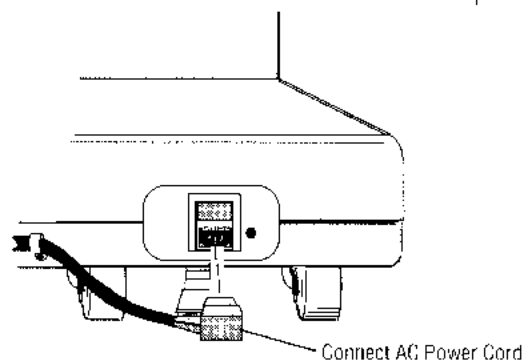

Figure 6-3. Charge Batteries
1. Connect AC power cord to table base and plug into an appropriate AC receptacle (see Figure 6-3).